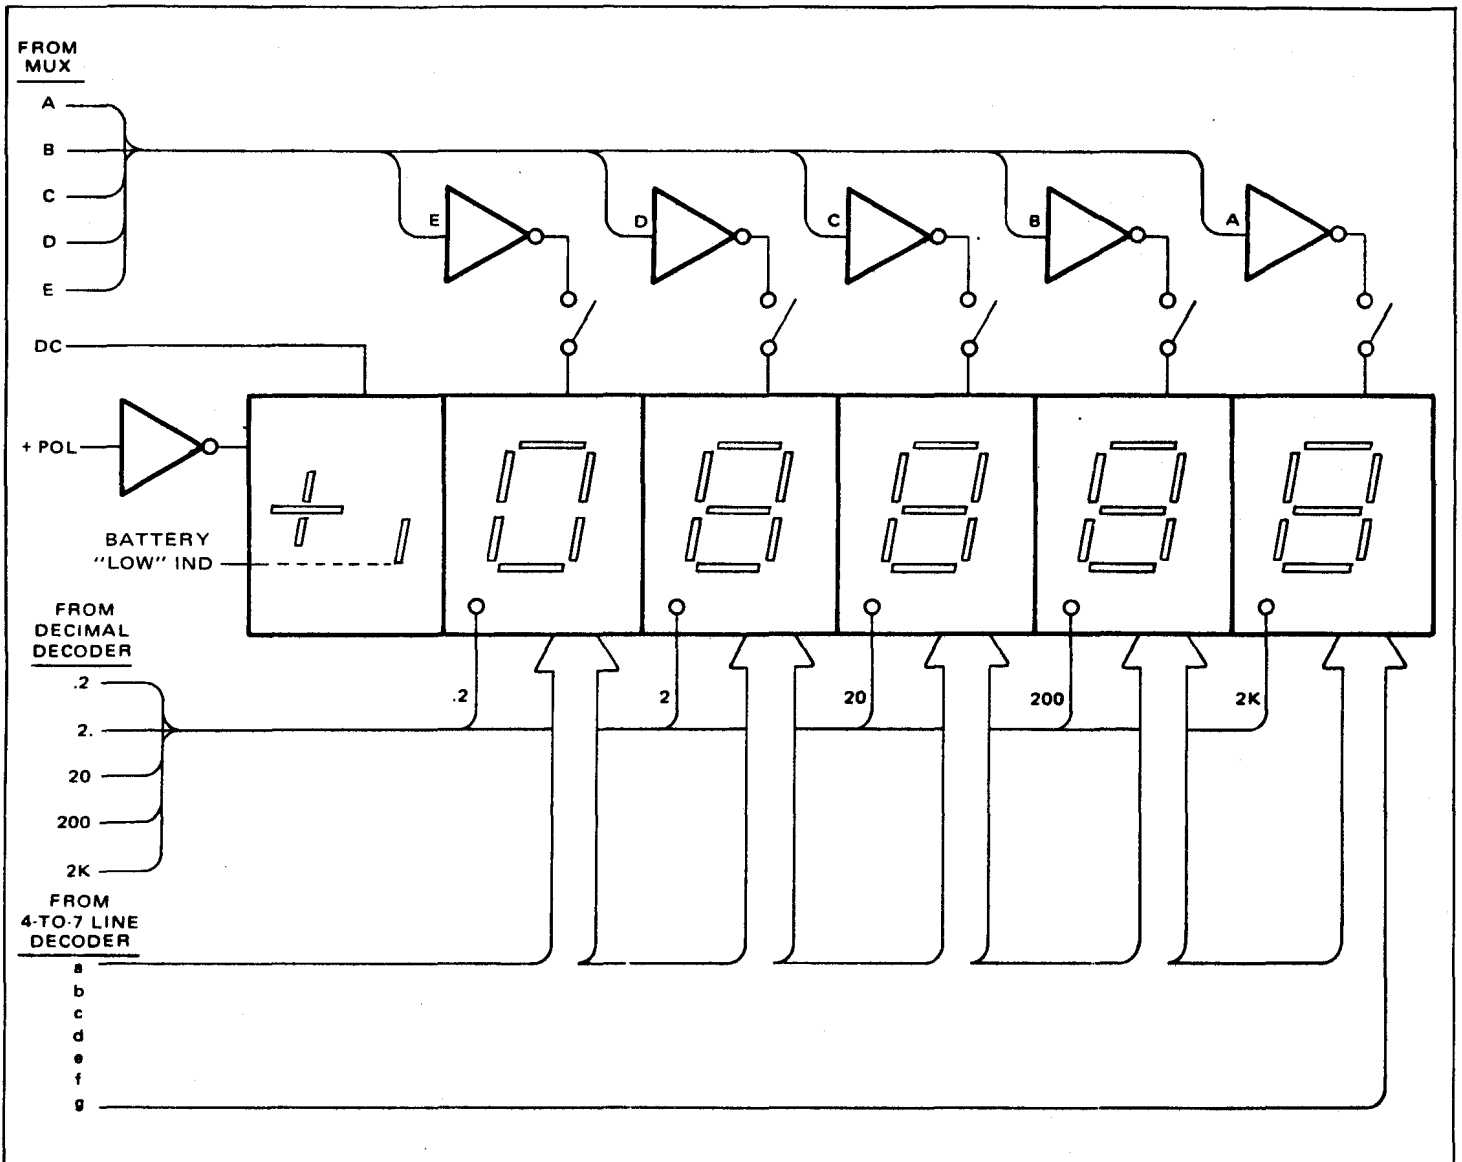

Figure 4.15 - LED Display
4.36 *LED Display.* A functional diagram of the display circuit is shown on figure 4.15. The display consists of five 7-bar LED display devices and the polarity display device. The output of the 7-segment decoder is tied in parallel to the inputs of the five 7-line display devices. When the digit code and 7-bar form is on the line for the low order digit display device the multiplexer in the counter chip will energize the enable line A and the device will display the numeric value on the 7-line bus at that time.